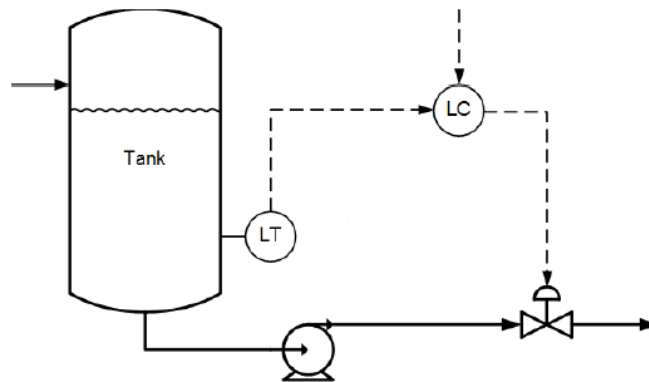

Figure 1(c) / Rajah 1(c)
- CLO1 (c) Figure 1(c) shows a process control system. Explain the error elimination process in this closed loop control system.